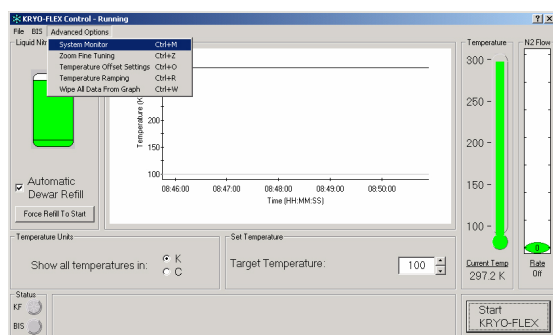

Figure 8. Advanced Options menu
- Click on Advanced Options > System Monitor (Figure 8).